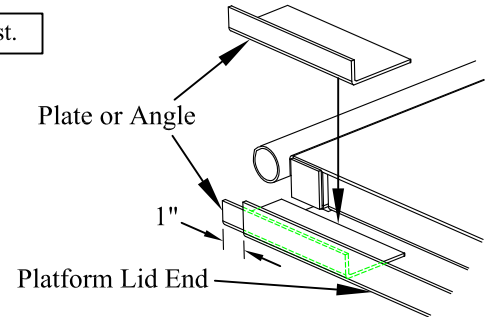

Figure 2: Clamped plate location.
3. **CLAMP** a plate or angle to the lid end (Figure 2), (46-inch and 50-inch travel lift gates only).
or manually **ENGAGE** the circuit breaker (Figure 2).